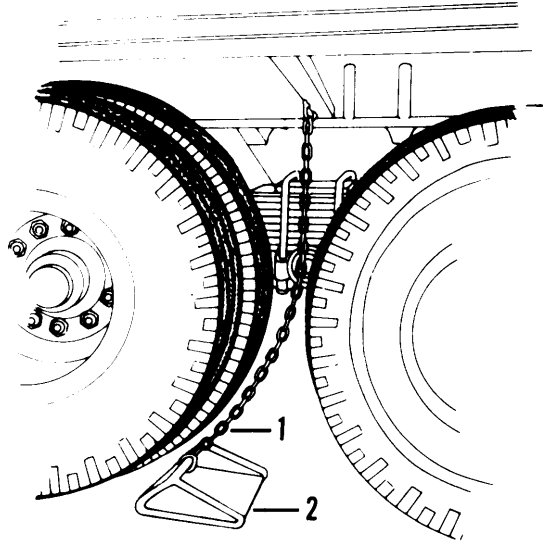

Figure 4-45. Chock BLOCK
- (1) Using cutting torch, cut weldment (fig. 4-45).
- (2) Grind weld off frame surface.
- (3) Remove chain (1) from chock block (2).
- (4) Repeat steps 1 through 3 for other chock block as needed.
- (1) Position chock block chain (1, fig. 4-45) on frame according to markings.